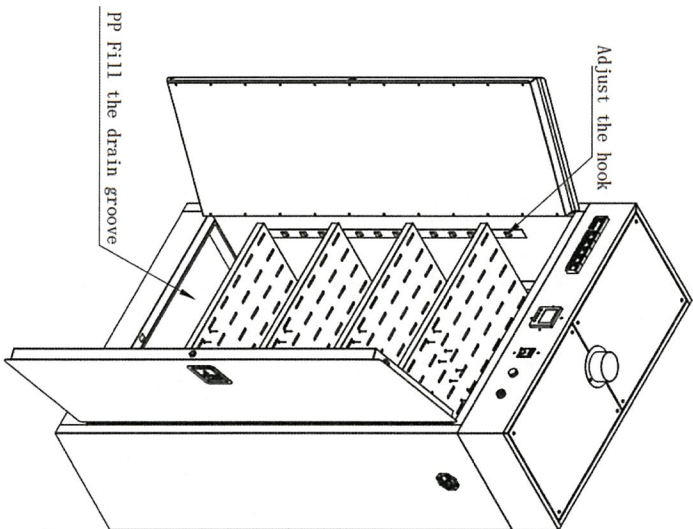

Figure 3
2. Application of the adjustment and drainage groove of the laminate: As shown in Figure 3, the user can adjust the height of the laminate according to the actual use needs, and check that the four sides of the laminate are installed in the adjustment hook after adjusting the height. The PP leakage tank at the bottom of the cabinet can hold corrosive liquids such as electrolyte generated by battery leakage, please use special adsorption materials for waste liquid recycling and disposal.